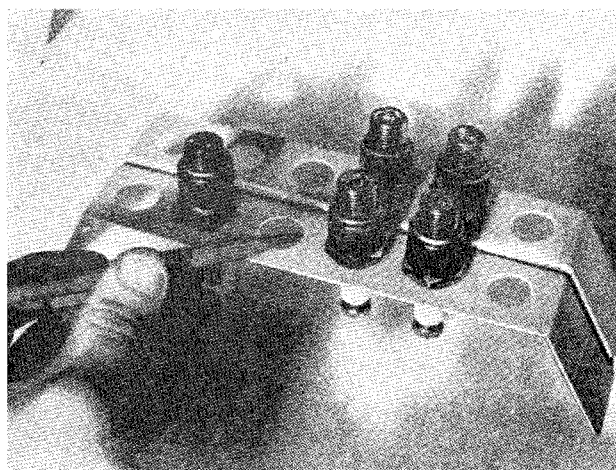

**Fig. 45**
- (i) Inspect for leakage after testing, by applying oil around the terminal (Fig. 45). Leakage is indicated by the presence of air bubbles, the intensity of which will serve to show degree of leakage. Leakage throws the plug out of its proper heat range, as the hot gas escaping has a "blow torch" effect on the plug, causing compression loss, pre-ignition, rapid electrode destruction and overheating of the insulator tip.